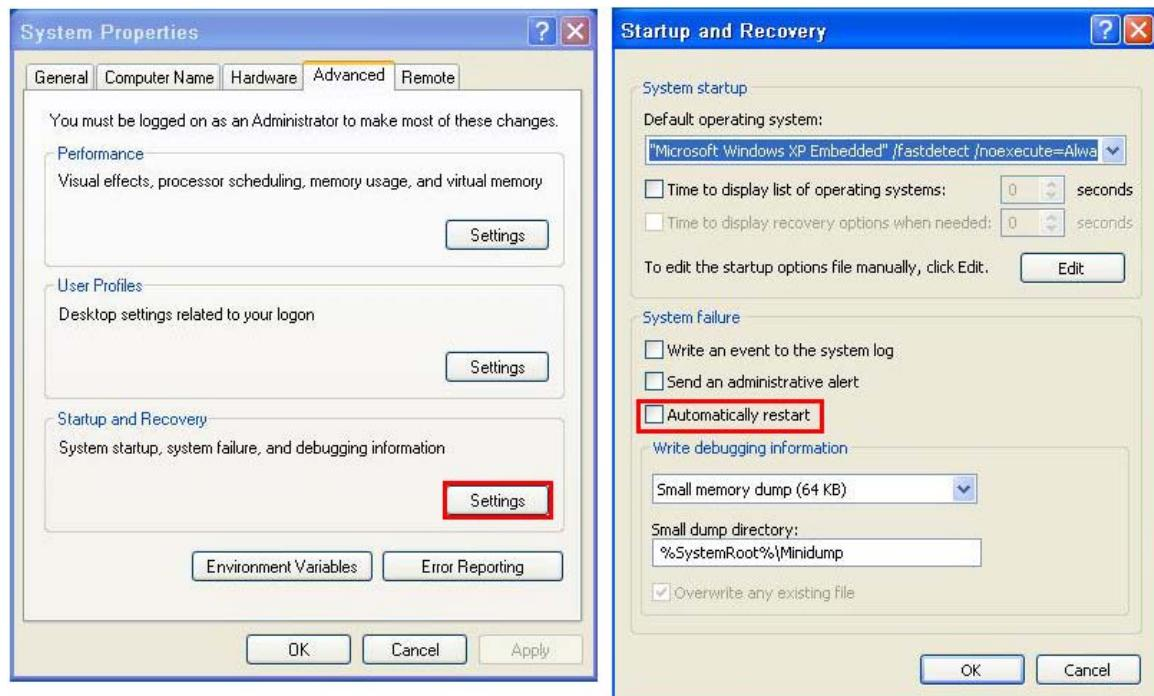

Figure B-23: Disable Automatically Restart
Step 3: Disable the automatically restart function before creating the factory default image. Go to: My Computer → Properties → Advanced. Click the Settings button of Startup and Recovery. Deselect “Automatically restart”. Click OK to save the settings and exit. (See **Figure B-23**)